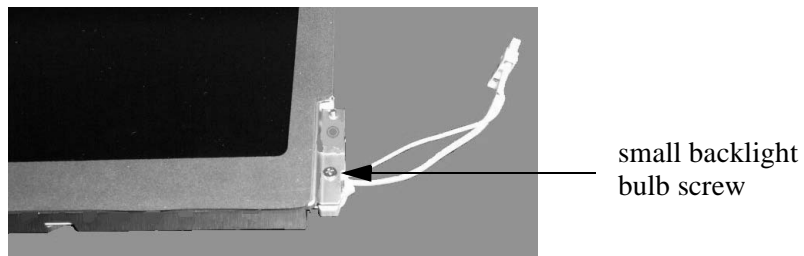
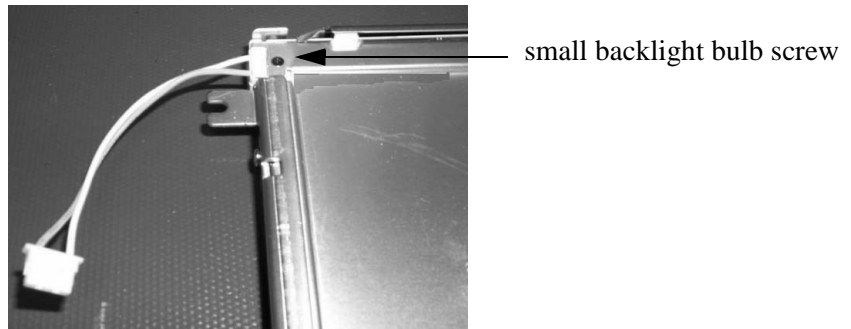

Figure 7: Philips Display (12'' Unit) - Backlight Screw Location
Figure 8: Sharp Display (15" Unit) - Backlight Screw Location
6. Remove the small screw holding the backlight bulb in the tray. Refer to figure 7 for a Philips (12'' unit) display or figure 8 for a Sharp (15'' unit) display.
2. *Philips display (12" unit) only:* Insert the small screw, removed in step 6 of the *Accessing and Replacing the Bulbs* section, into the backlight bulb slot. Repeat for both bulbs. Refer to figure 7.
3. *Sharp display (15" unit) only:* Insert the small screw, removed in step 6 of the *Accessing and Replacing the Bulbs* section, into the backlight bulb slot. Repeat for both bulbs. Refer to figure 8.